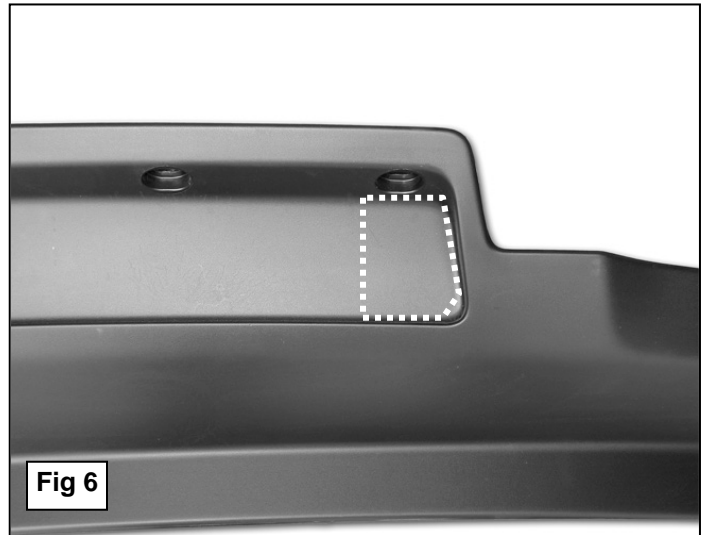
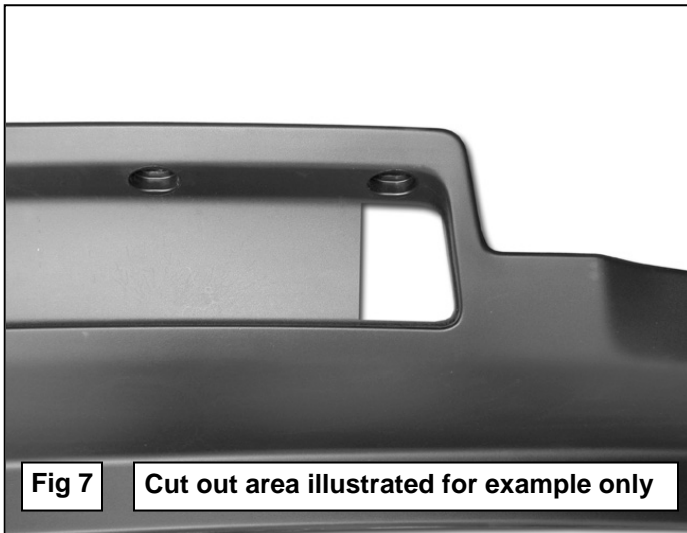

Fig 6
Fig 7
5. Hold the plastic splash guard up in the approximate position. Mark the areas indicated onto the driver and passenger side of the splashguard, **(Figure 6)**. Cut out (2) openings for the lower Mounting Brackets, **(Figure 7)**. Reinstall the splash guard using the factory hardware.